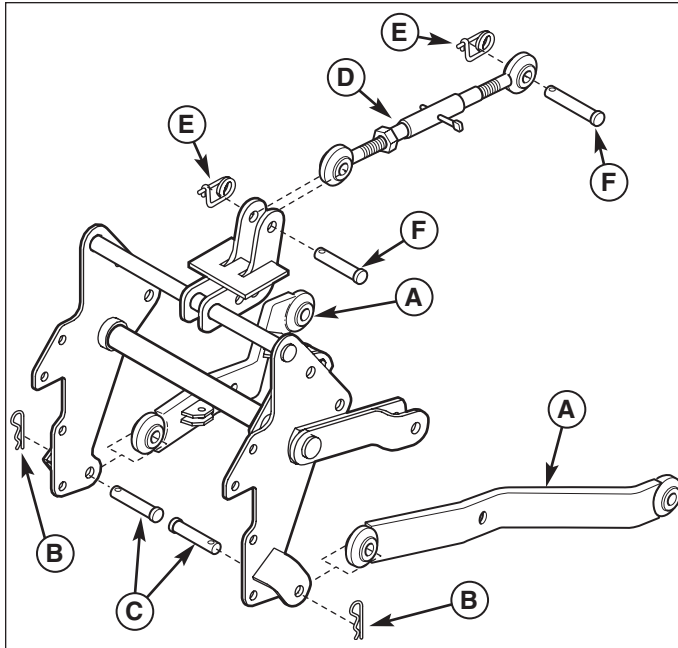

Figure 12. Install Sway Arms
1. Attach the upper lift link (D, Figure 12) to the hitch using a clevis pin (F) and safety clip (E).
2. Attach the sway arms (A, Figure 12) to the hitch assembly using clevis pins (C) and hair pin clips (B). The arms should angle out, away from center.